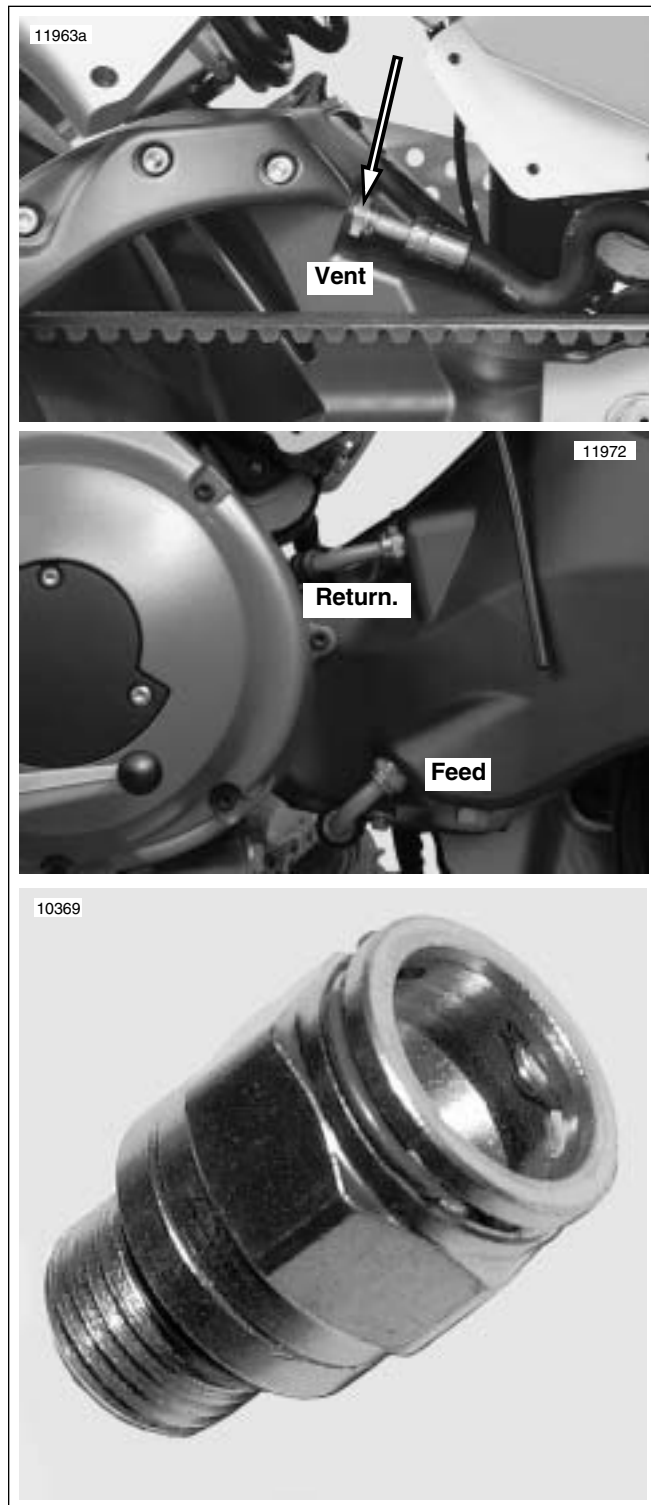

Figure 2-85. Jiffy Tite, Quick Disconnect Oil Lines and Fittings (Typical)
1. See Figure 2-85. Remove oil line fittings from swingarm.
3. See Figure 2-85. Install oil line fittings on swingarm. Tighten to 108-156 in-lbs (12-17.6 Nm). See 3.10 OIL LINE FITTINGS.